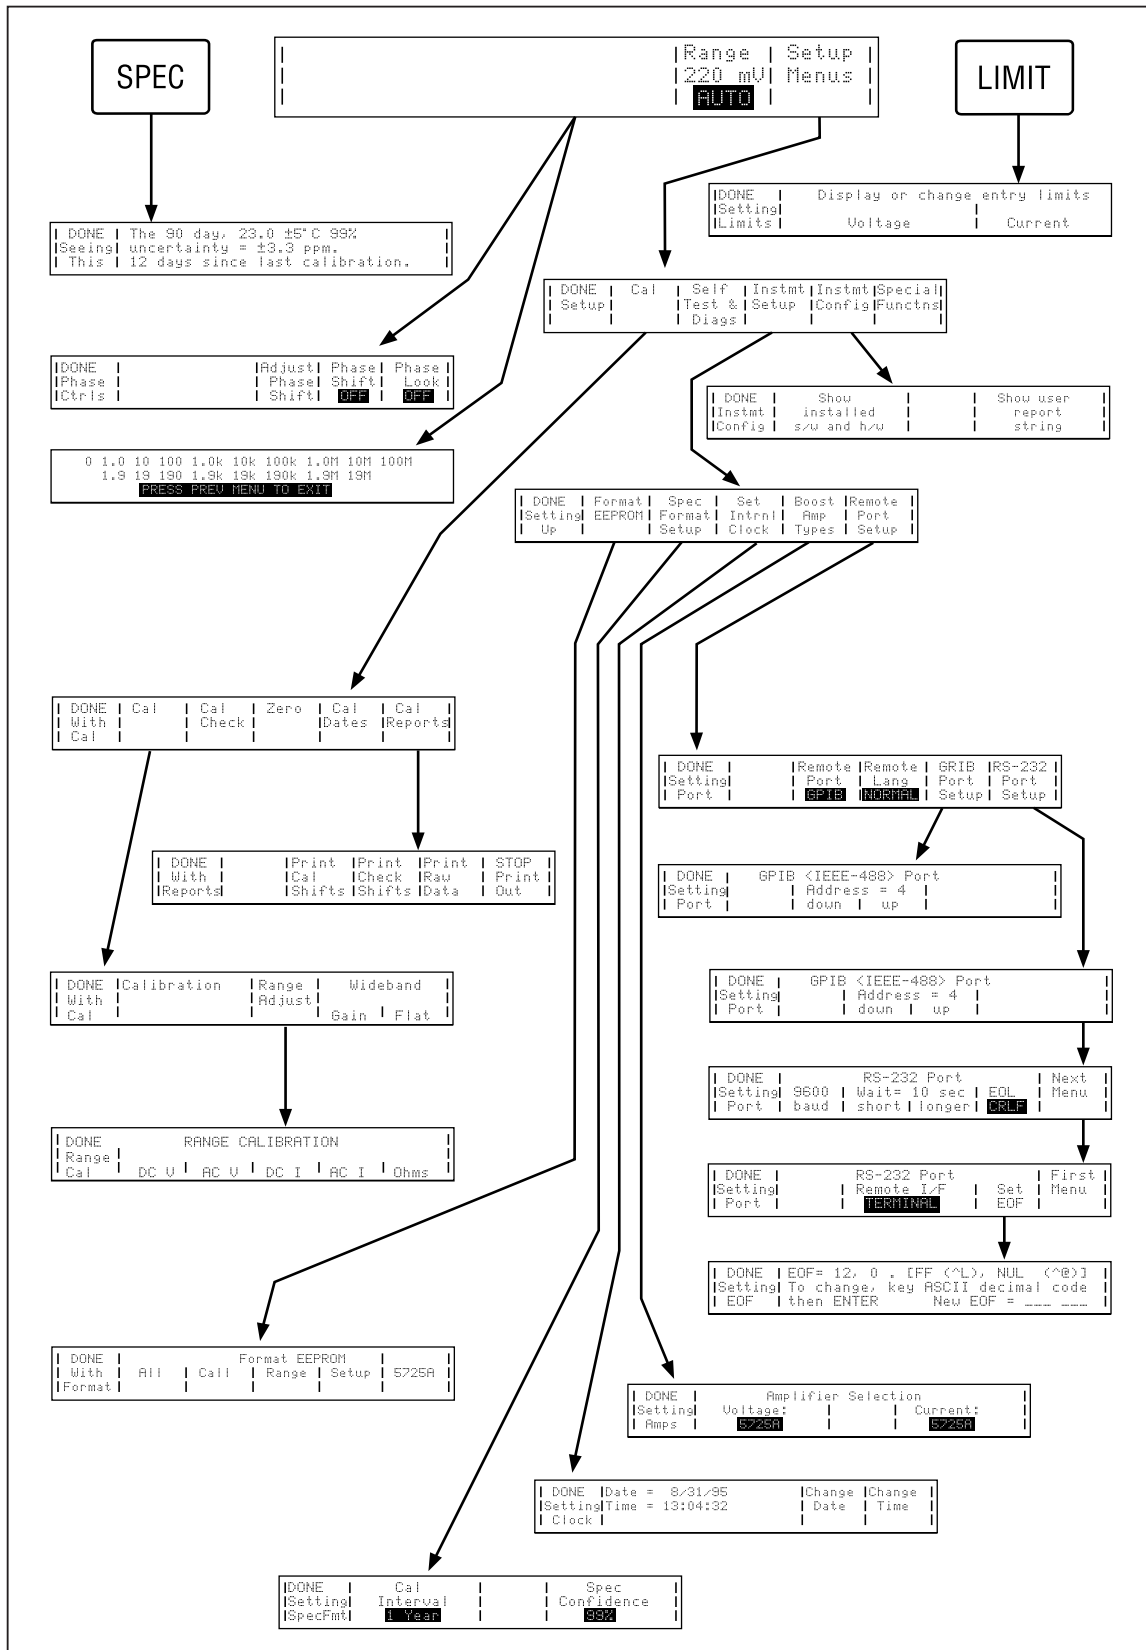

Figure 7. Softkey Menu Tree
<p>②</p> <p>Control Display</p>	<p>An alphanumeric vacuum-fluorescent display that shows data entries, UUT error adjustments, menus, and other prompts and messages. Each menu contains a set of softkey labels that identify the functions of the softkeys directly below them. The changing menus provide access to many different functions through the five softkeys plus the  key. (See Figure 7, Softkey Menu Tree.)</p>
<p>9</p> <p>Softkeys</p>	<p>The functions of the five unlabeled softkeys are identified by labels on the Control Display directly above each key. The functions change during operation so that many different functions are accessible through these keys. A group of softkey labels is called a menu. A group of interconnected menus is called a menu tree. Figure 7 shows the menu tree for the calibrator.</p>
The functions of the six softkeys described under “Front Panel Features”, are represented by menus containing labels displayed directly above each key. These functions change whenever you access a new menu. Figure 7 shows the hierarchy of all the menus available for the calibrator.